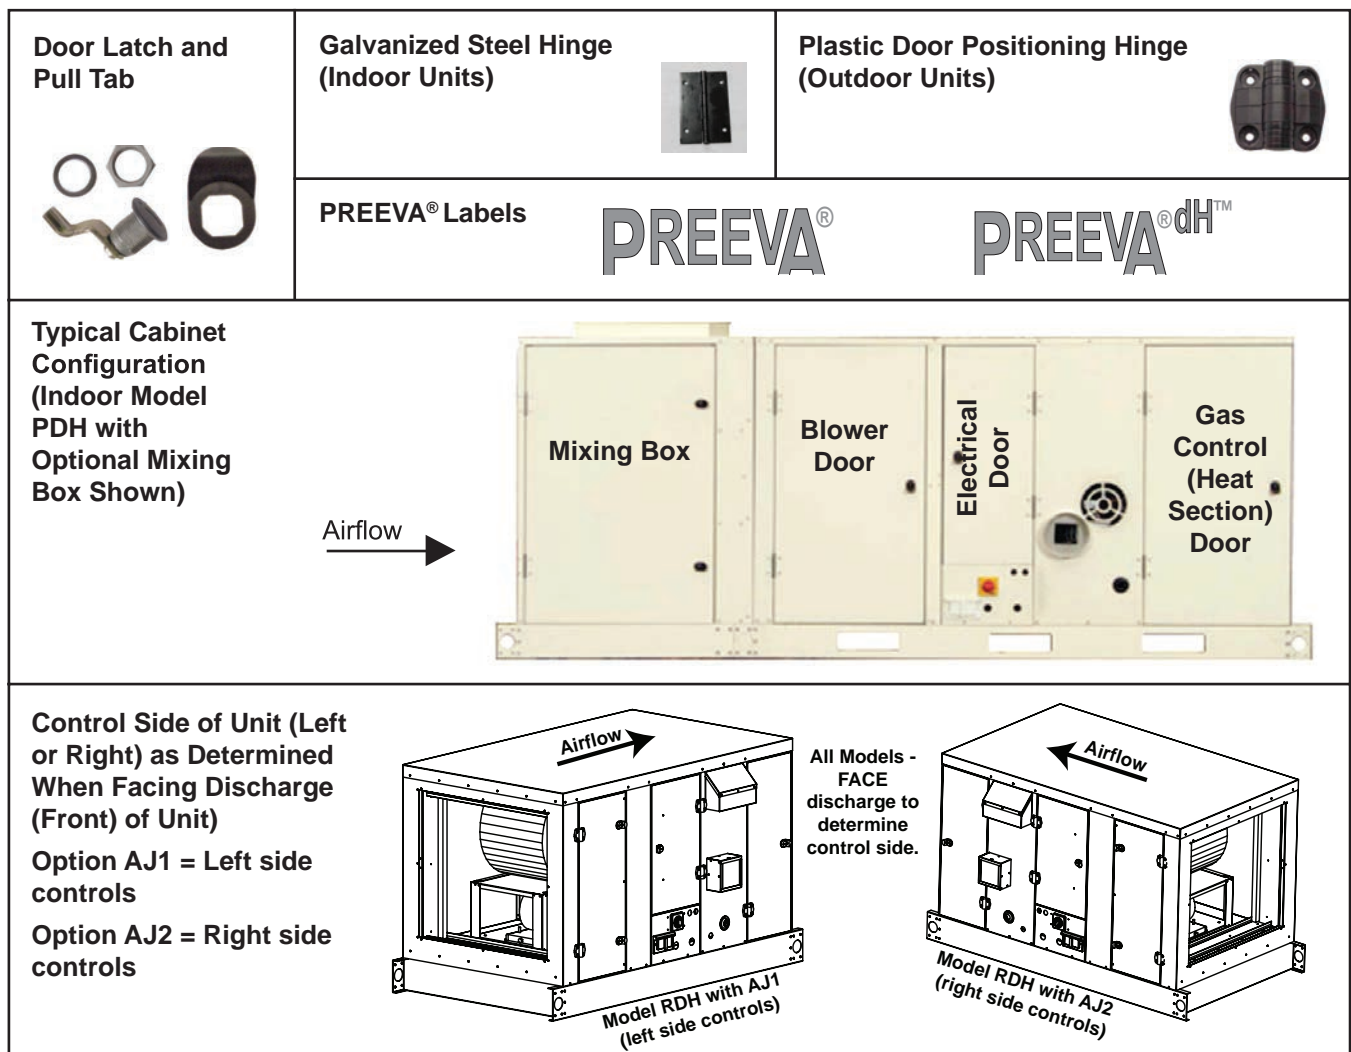

Figure 39. Common Cabinet Components and Configurations (Refer to Table 59)
- Common cabinet components and configurations are shown in Figure 39 and listed in Table 59. Most cabinet parts listed are without insulation. If insulation is required, specify on the order. Original order option codes for insulation are explained in Table 59.